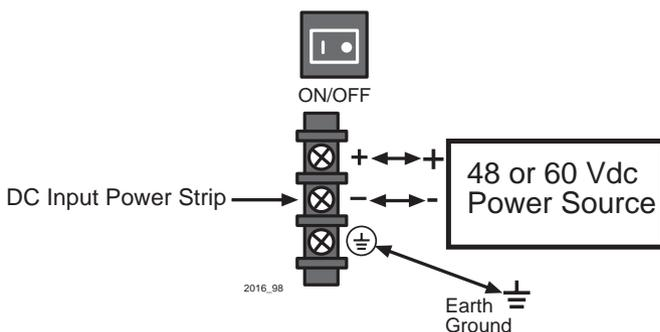

Figure 3-7 48/60 VDC Power Supply Connections
To connect the 6C205-2 to a 48/60 VDC power source, face the front of the power supply, then refer to Figure 3-7 and proceed as follows:
2. Refer to Figure 3-7 for the proper connections to a 48/60 VDC power source. Then connect the output leads of the 48/60 VDC power source being used to the negative (-) and positive (+) terminals on the DC input power strip.